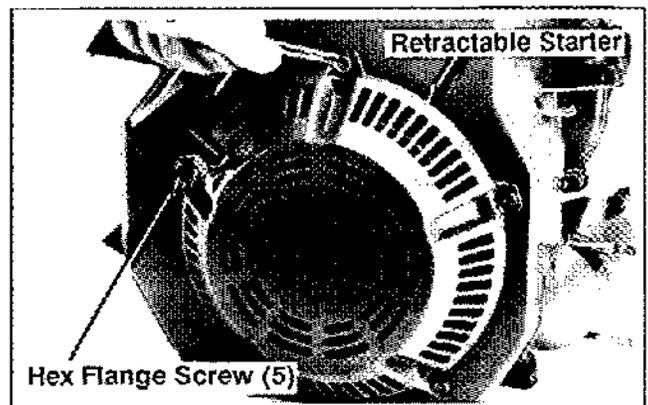

Figure 9-10. Removing Retractable Starter.
1. Remove the five hex flange screws and retractable starter. See Figure 9-10.